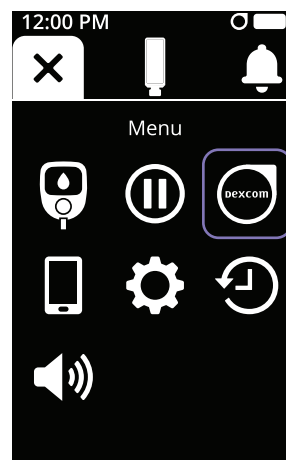

Figure 81
- b. Tap the **CGM** icon (see Figure 81)